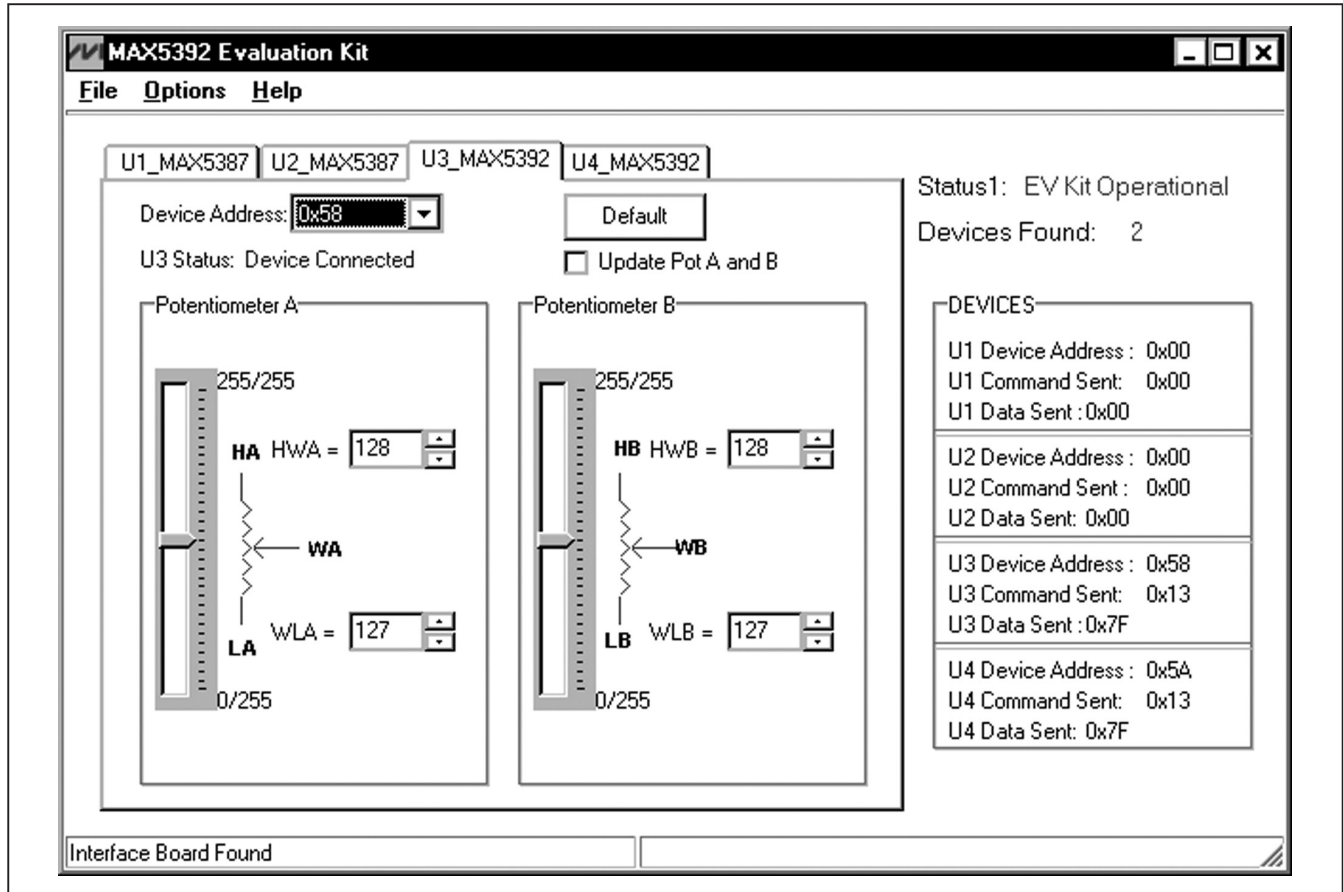
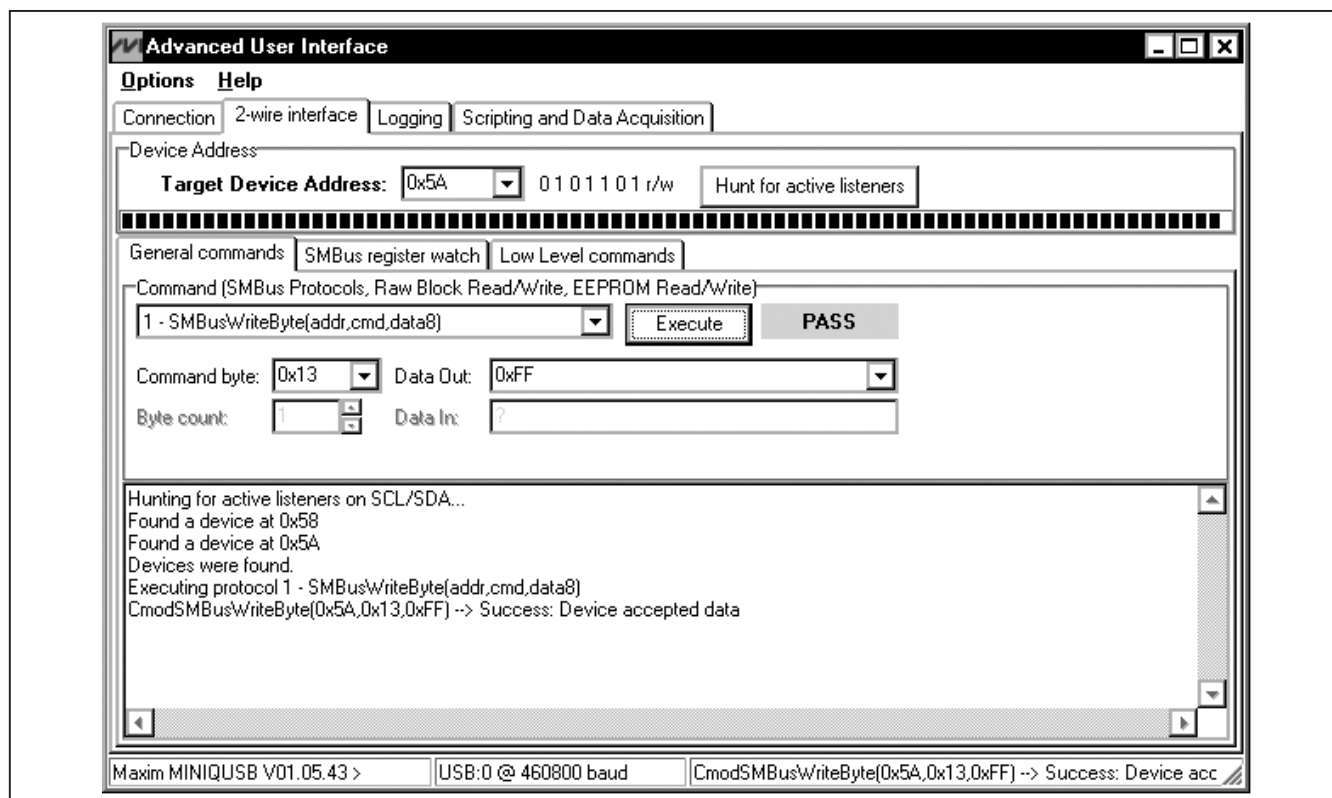

Figure 1. MAX5392 Evaluation Kit Software Main Window
Figure 4. Simple Low-Level 2-Wire Interface
- 14) The EV kit software main window appears, as shown in Figure 1.
The MAX5392 EV kit software GUI shown in Figure 1 is a Windows program that provides a convenient means to control two MAX5392M dual potentiometers. Use the mouse or press the Tab key to navigate through the GUI controls. The correct SMBus/I2C write operations are generated to update the MAX5392M internal memory registers when any of these controls are executed.
There are two methods for communicating with the EV kit, through the normal user-interface panel (Figure 1), or through the I2C commands available by using low-level SMBus™ or by selecting the **2-Wire Interface** (Figure 4) utility from the main program's **Options | Advanced Users Interface** menu bar. A window is displayed that allows I2C operations, such as **SMBusReadByte** and **SMBusWriteByte**. Do not use the **SMBusReadByte** operation because the MAX5392 does not send data to the master.
**Note:** The I2C dialog boxes accept numeric data in binary, decimal, or hexadecimal. Hexadecimal numbers must be prefixed by \$ or 0x. Binary numbers must be exactly eight binary digits. Figure 4 shows a simple SMBus write-byte operation using the included 2-wire interface diagnostics tool. In this example, the software is writing data 0xFF to command byte 0x13 to the device with the device address 0x5A. The data sequence sets the MAX5392 (U4) wiper positions WLA and WLB to 255.